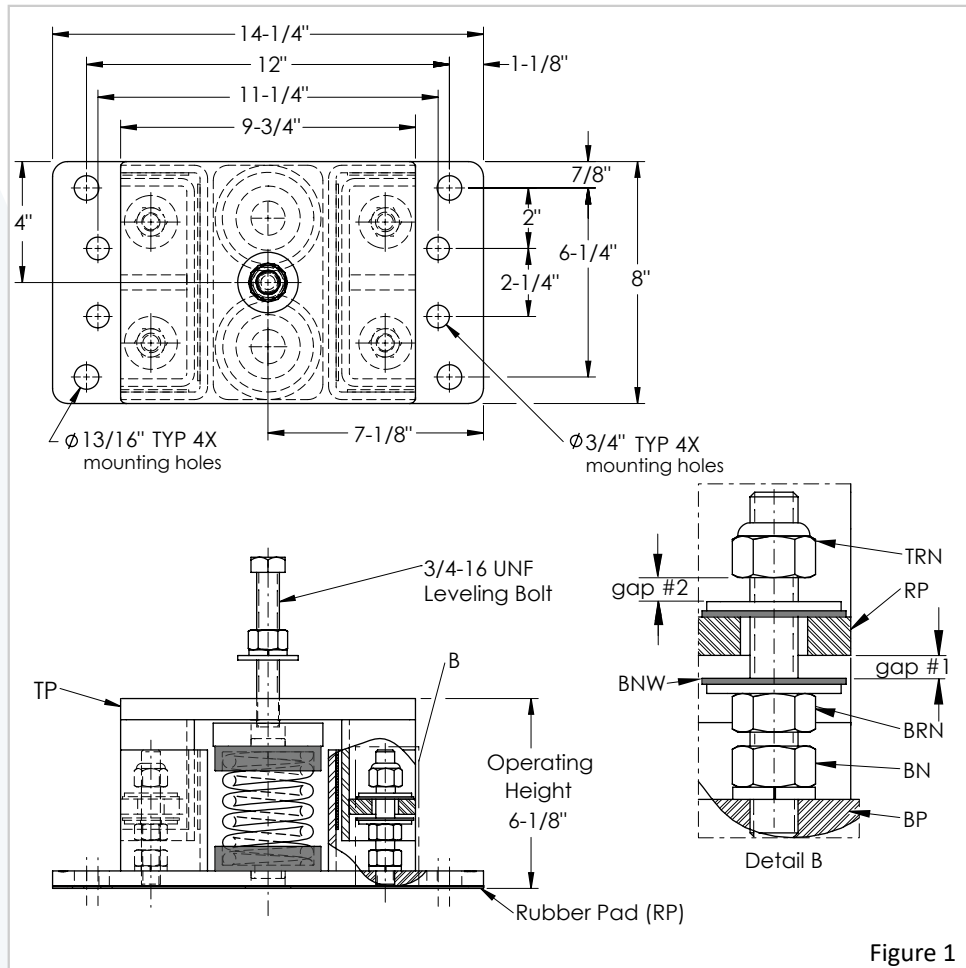

Figure 1
2) Secure each spring mount to the equipment support structure or concrete foundation using the four mounting holes on the bottom frame. All bolts and anchor hardware must be a minimum of grade 5. If the engineering consulting agency or installation engineer recommends a higher grade of hardware, follow their recommendation. If spring mounts are welded in position, remove the rubber pad (RP) before welding (see figure 1).
3) Use a forklift, crane, or any other certified lifting machine to raise the equipment to be installed. Slowly lower the equipment on top of the spring mounts' top plates (TP) and ensure that the equipment's mounting holes are perfectly aligned with the spring mount's top plate's (TP) center threaded hole (see figure 1).
4) Raise the top restraint nuts (TRN)  $3/16''$  as shown in Figure 1, Detail B.
6) Load each spring by turning all leveling bolts (LB)  $1/2$  turn at a time, adjusting each isolator in succession, as shown in Figure 1.
7) Once each spring's restraint plate (RP) has lifted off the bottom neoprene washer (BNW), stop adjusting that isolator, as shown in Figure 1, Detail B.
9) Adjust the top restraining nuts (TRN) and the bottom restrained nuts (BRN) together, ensuring that gap #1 and gap #2 have clearances of  $1/8''$  to  $3/16''$ , as shown in Figure 1, Detail B.
10) Every spring mount **must** have clearances at both gap #1 and gap #2 after the installation is complete, as detailed in Figure 1, detail B.